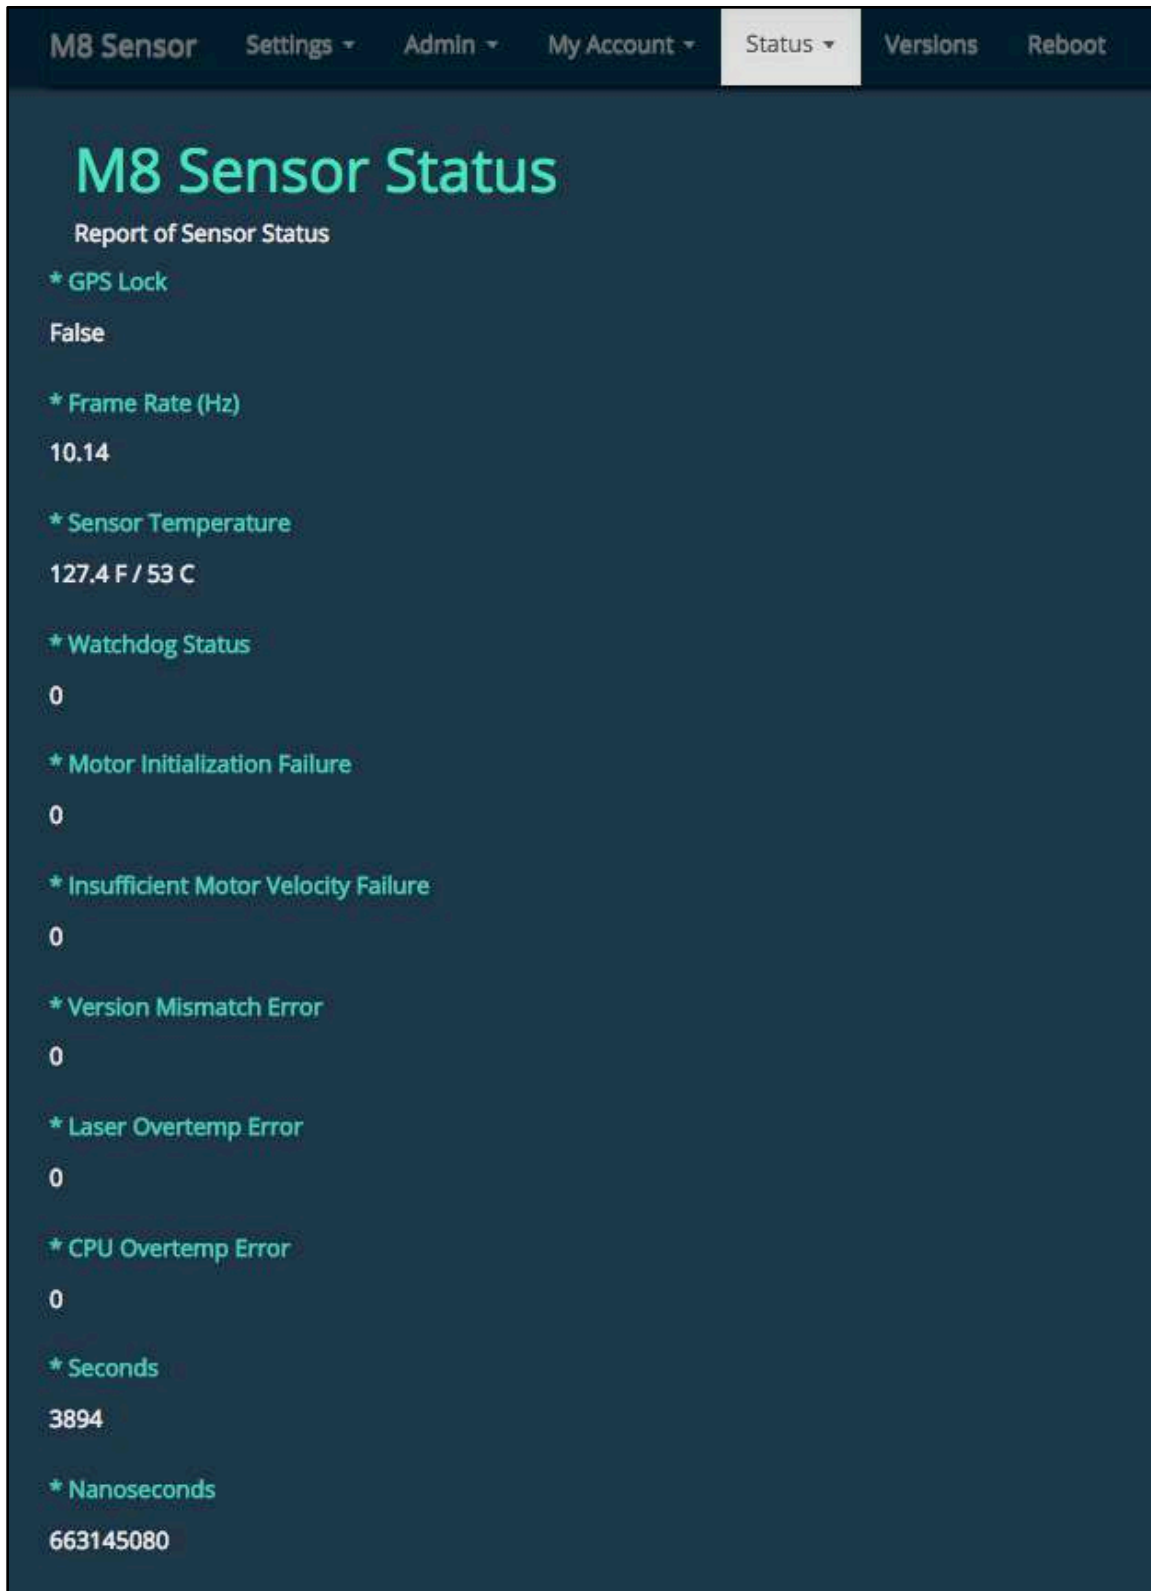

Figure 37. Web Server: M8 Sensor Status Tab's Report
- To view the report, click the Status tab. The sensor needs to have been running for a period of time in order to generate meaningful statistics. The web server may pause briefly to gather the very latest information before displaying a list of statuses. See an example of the report in Figure 37. Refer to Table 11 for an explanation of each status that is listed.